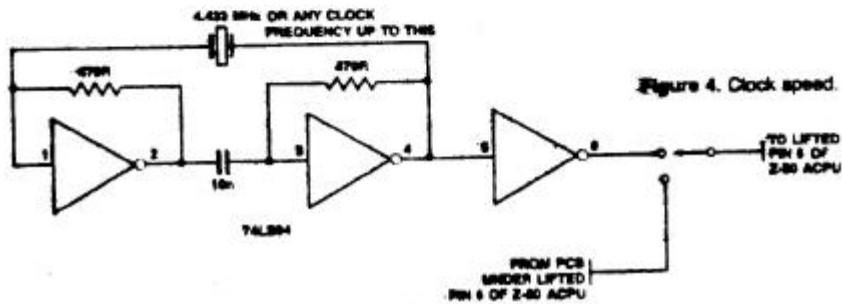

Figure 4. Clock speed.
2. The CPU can run at 4.433MHz by lifting pin 6 of the Z80A CPU and adding the clock circuit shown in Figure 4. The switch can be mounted on the top of the box. The speed change will affect tape operation, as this is controlled by the CPU. However, disk operations are unaffected and most programs will run somewhat faster. Do not change over the switch, however, unless the WAIT switch (set below) is depressed Simultaneously, or no power is applied. The Z80 does not like its clock signal to be interfered with!